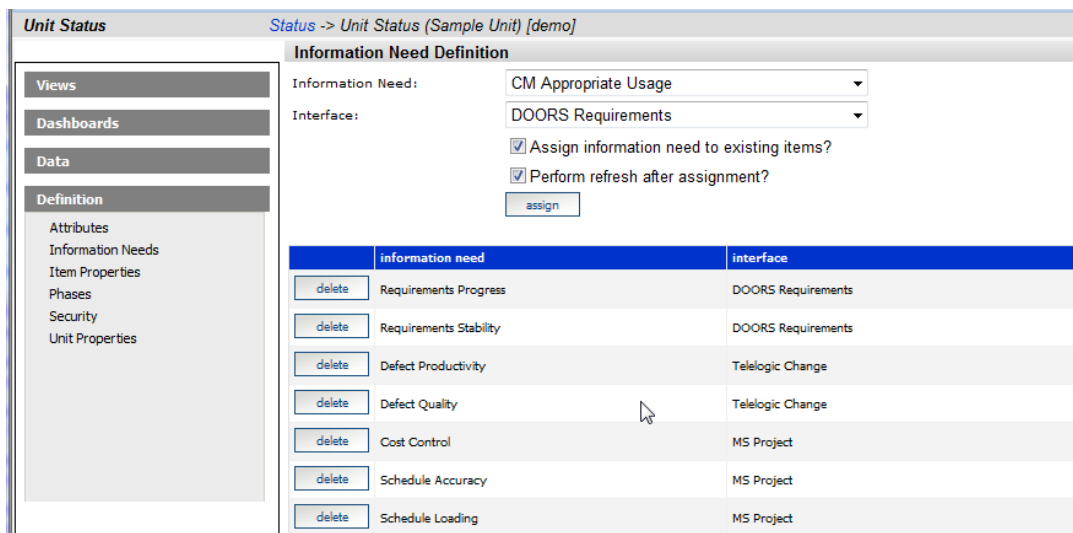

Figure 39
5. Click the Information Needs command (Figure 39)